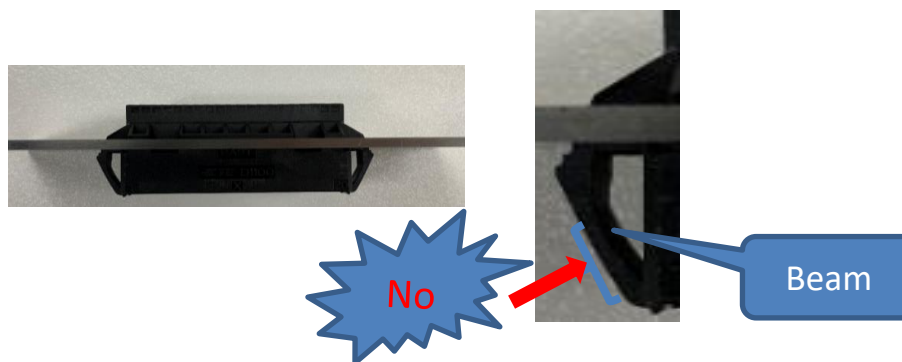

Fig 6 Housing For Panel Mount Condition
4.2 When the connector tilt on the panel, please press the lock level, until connector pulled out, fig 6.
Fig 6 uninstalling tilt connector from panel
- ❖ Please do not press on the beam (Red arrow) of the level during the uninstalling process, as fig 6 shown.